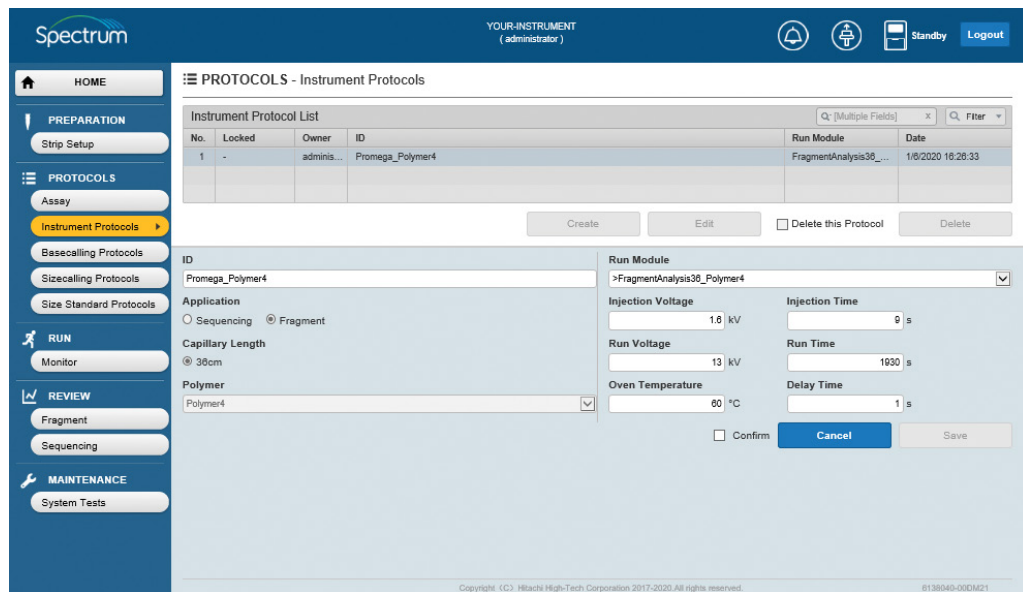

Figure 32. 'Instrument Protocols' edit screen with active fields.
8. Select **Edit**. This will enable the ID and Run Module fields (Figure 32).